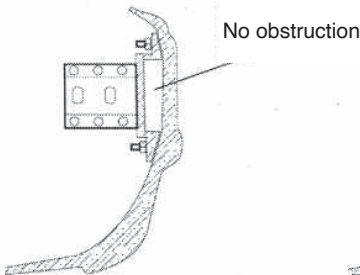

Fig. 4
3. Prior to drilling, make sure there is nothing blocking the area behind the bumper (see Figure 4).